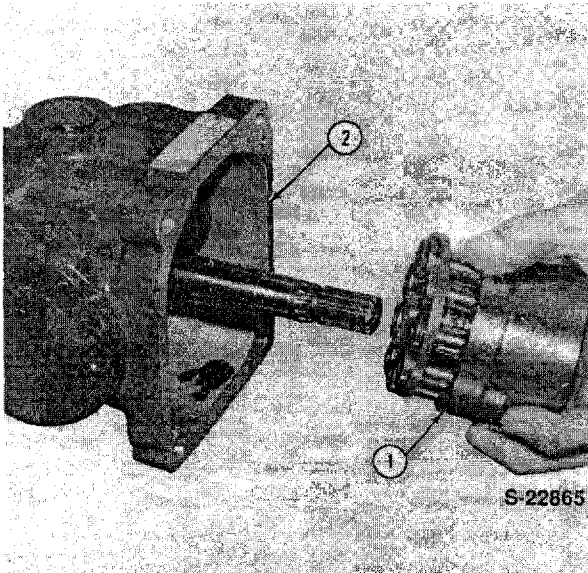

Figure 45
4. Remove the pump cylinder block and piston assembly, Figure 45.